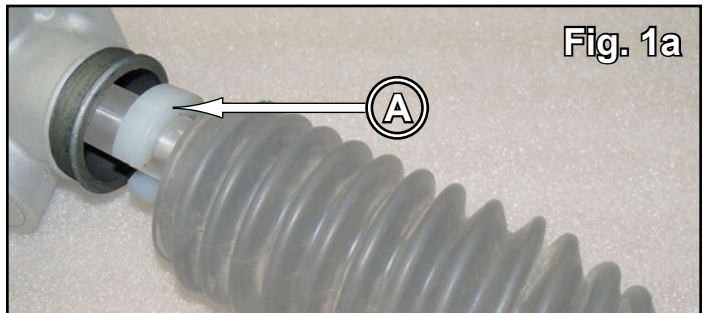

Fig. 1a
3. Install Shocks to Front Bracket (A) using stock hardware. See Fig. 1a to determine lift.